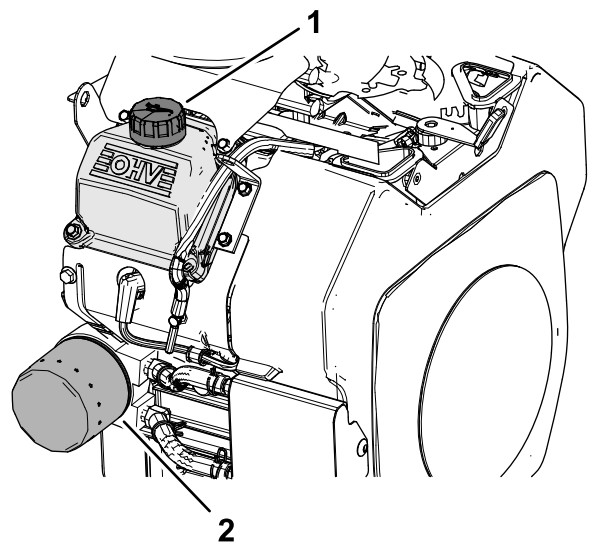

Figure 33
2. Remove the old filter and wipe the filler adapter gasket surface (Figure 33).
3. Apply a thin coat of new oil to the rubber gasket on the replacement filter (Figure 33).
5. Remove the oil-fill cap (Figure 33) and add 2 L (67 oz) of the specified oil into the engine; refer to Engine Oil Specification \(page 27\) and Changing the Oil \(page 28\).